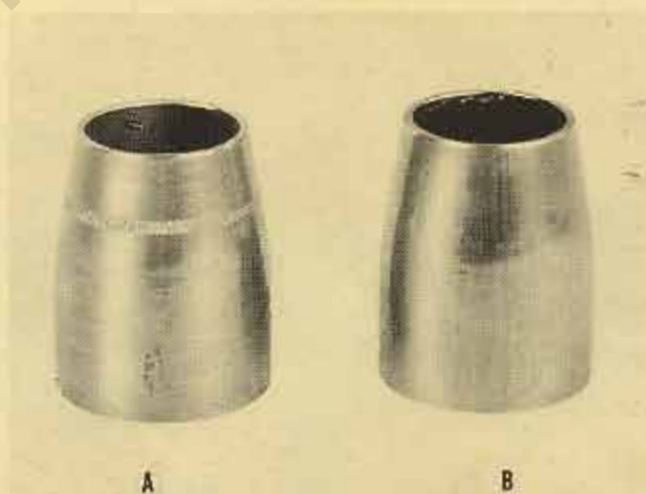

Fig. 2
Figure 2, indicated by "A" shows the pinion bearing sleeve used with the 25° bearing. The sleeve used with the 40° bearing is indicated by "B". The knurled section on the 25° bearing sleeve (A) is provided for identification purposes.